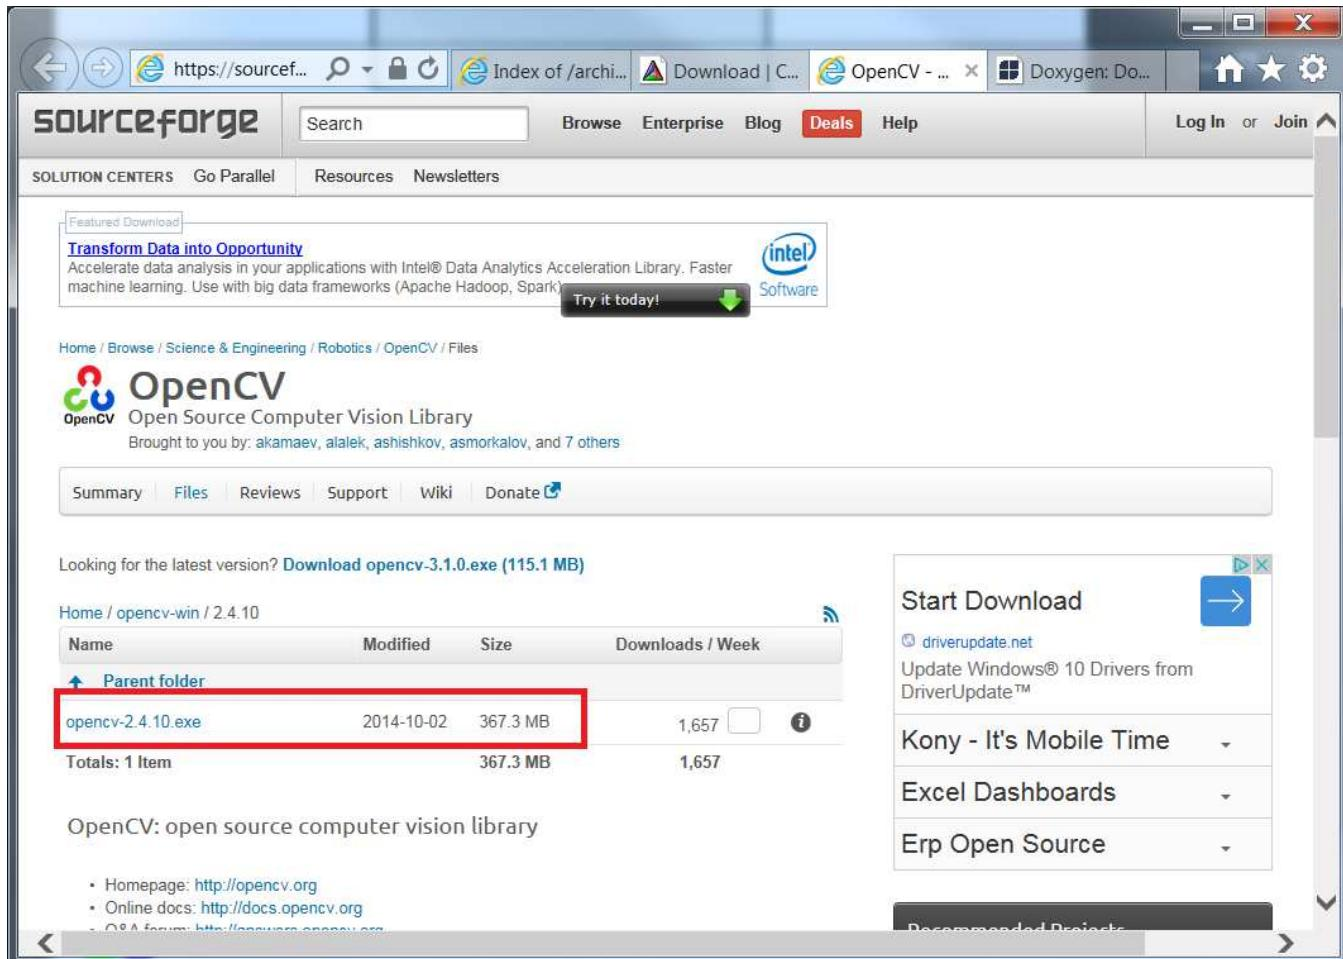

**Figure 20. CMake Finished**
6. Click “Finish” as shown in Figure 20 and CMake is now installed.